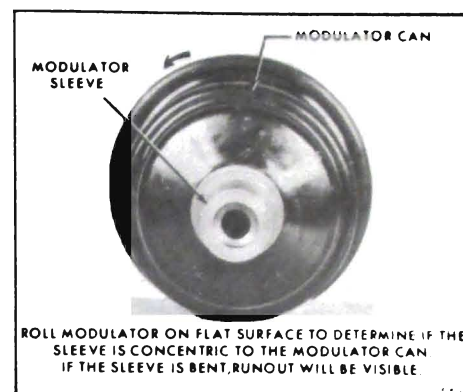

Figure 74-365 - Checking
2. Check modulator valve sleeve alignment. Roll modulator on a flat surface to determine if the sleeve is concentric to the modulator can. See Figure 74-365. If the sleeve is bent,